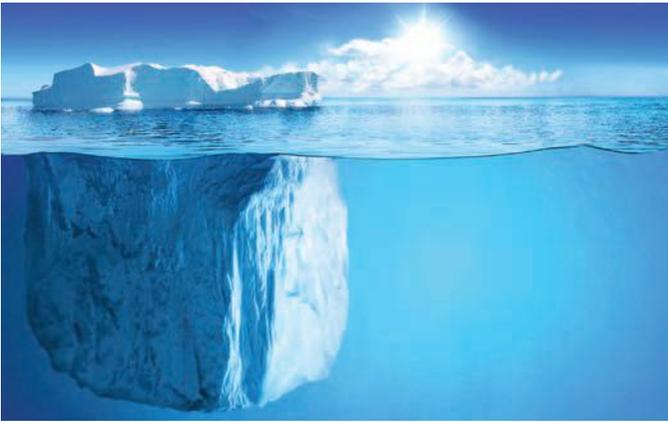

Figure 11.29 When water freezes, its density falls; this is why icebergs float.
- It decreases in density when it freezes (Figure 11.29).